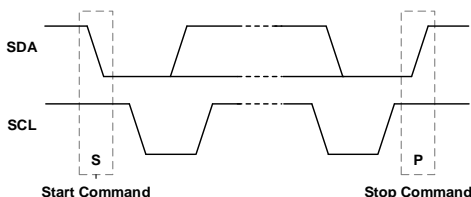

Figure 9: Start and Stop Commands
Start (S) and stop (P) commands are signaled by the master device, which signifies the beginning and the end of the I²C transfer. The start command is defined as the SDA signal transitioning from high to low while the SCL is high. The stop command is defined as the SDA signal transitioning from low to high while the SCL is high (see Figure 9).